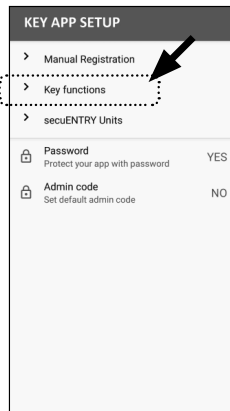

Fig. 39
- 4 Tap on "Key functions" (Fig. 39).